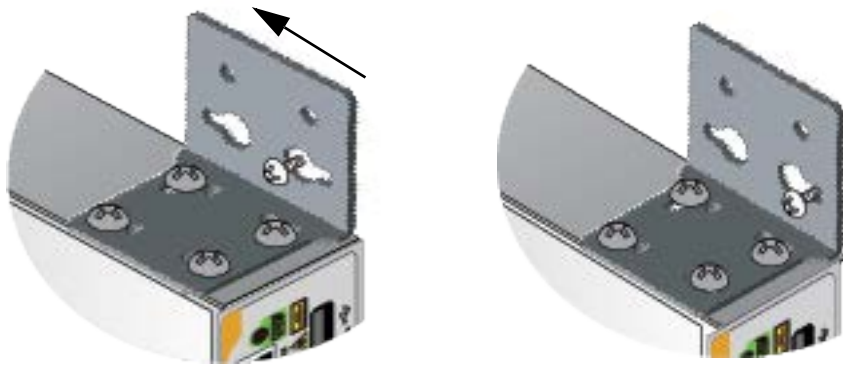

Figure 23. Sliding the Key-hole Slot under the Screw Head
3. Install the brackets on the screws by sliding the key-hole slots under the screw heads. See Figure 23.